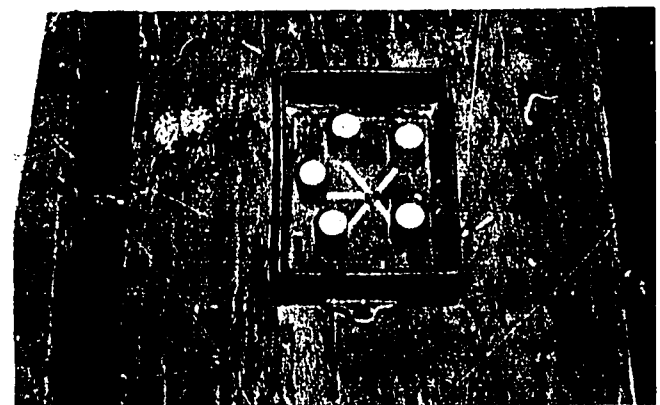

Fig. 55C-2. Place Gating
6. Cut and place five pieces of split tubing from patterns to approximate area of pouring basin. See Fig. 55C-2. These will be paths for gating.